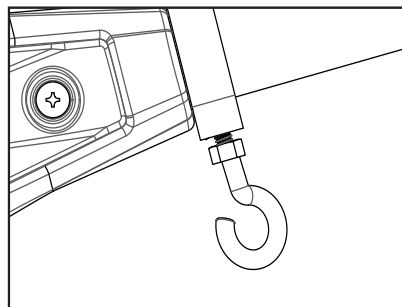
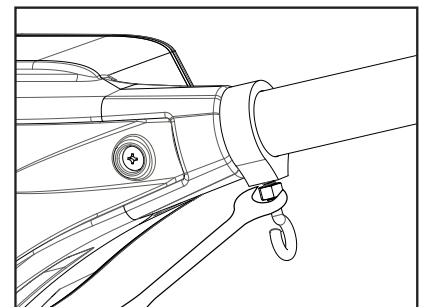

Figure 7
Figure 8
6. Slide ball hook collar to your preferred location. Hand tighten the ball hook into boom tube. Tighten enough so that there is no movement on the boom. (Figure 7) Once ball hook is secure, with a 7/16" wrench, tighten the 1/4-20 nut until secure with ball hook collar. (Figure 8)